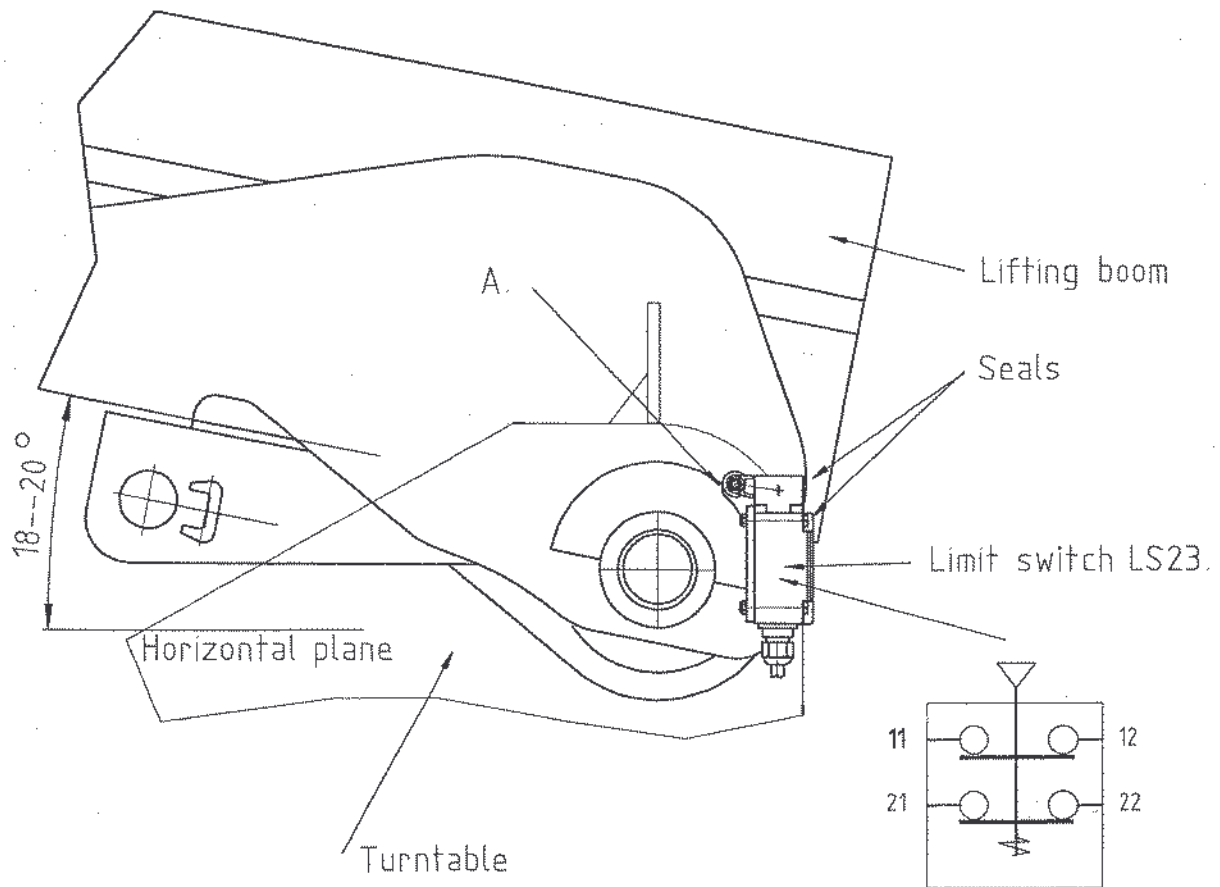

Figure 18.-1
2. Adjustment: Support the MEWP with the outriggers wheels about 100 mm off the ground. Guiding from below, raise the booms to an angle of 18-20 degrees from the horizontal plane, refer to figure 18.-1. Adjust the roller lever of limit switch LS23 so that cam A of the guide plate opens points 21-22 of the limit switch by means of the roller lever.
3. Seal the roller lever shaft nut and limit switch fixing screws with sealing paint after the adjustment, refer to figure 18.-1